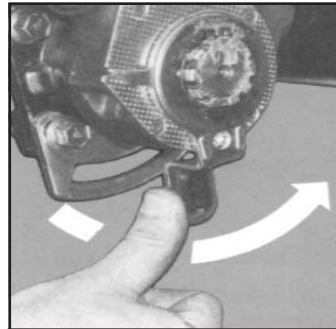

Figure 11a
- The S-ABA control arm can be placed anywhere within the range of the bracket slot for automatic adjustment to take place. Haldex recommends, however, rotating all control arms towards the axle until they come to a complete stop (fig. 11a,b,c) and securing in that position. This will create a “common” position for all wheels.